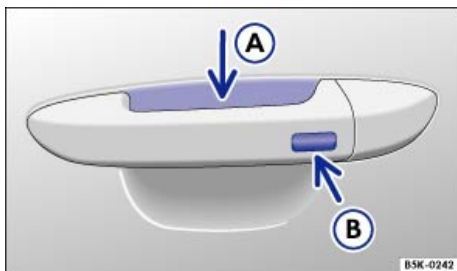

Fig. 26 Keyless Access system: Sensor for unlocking A on the inside of the front door handles. Sensor for locking B on the outside of the front door handles.
All you have to do is touch a sensor surface on one of the front outside door handles ⇒ fig. 26 or push the Volkswagen emblem on the rear hatch ⇒ *Opening the rear hatch* when a valid remote control vehicle key is within range ⇒ .
- Keyless Entry: Unlocking the vehicle with the sensor surfaces on the outside door handles of the driver or front passenger door ⇒ fig. 26 \(A\) or by using the Volkswagen emblem on the rear hatch.
To use the convenience closing feature to close all power windows and the sunroof, hold your finger on the lock sensor surface on the outside of the door handle ⇒ fig. 26 \(B\) for a few seconds until the windows and sunroof close.